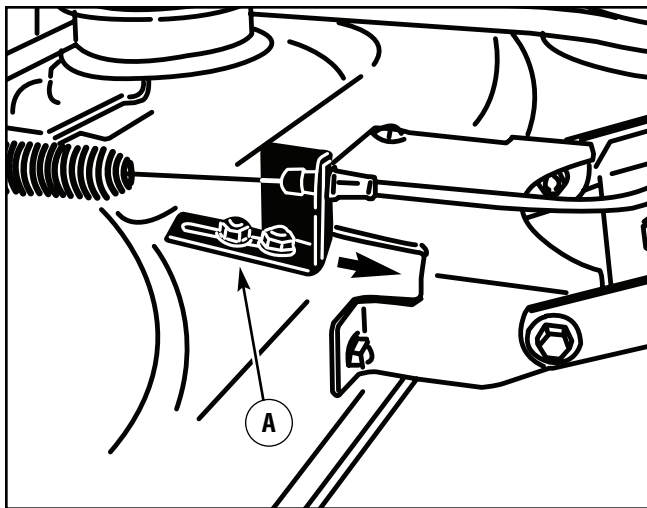

Figure 23: Blade engage cable adjustment
5. Loosen the hardware securing the blade engage cable bracket (Figure 23) to the mower deck. Slide the bracket forward 1/4 - 1/2". Tighten the hardware securely.